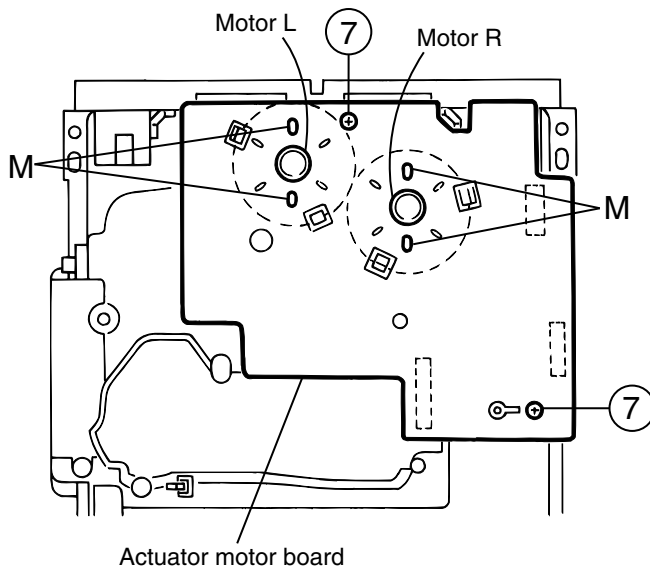

Fig.14
■ Removing the actuator motor board (See Fig.14, 15)
1. Absord the four soldered positions "M" of the right and left motors with a soldering absorber(See Fig.14).
2. Remove the two screws 7 retaining the actuator motor board(See Fig.14).